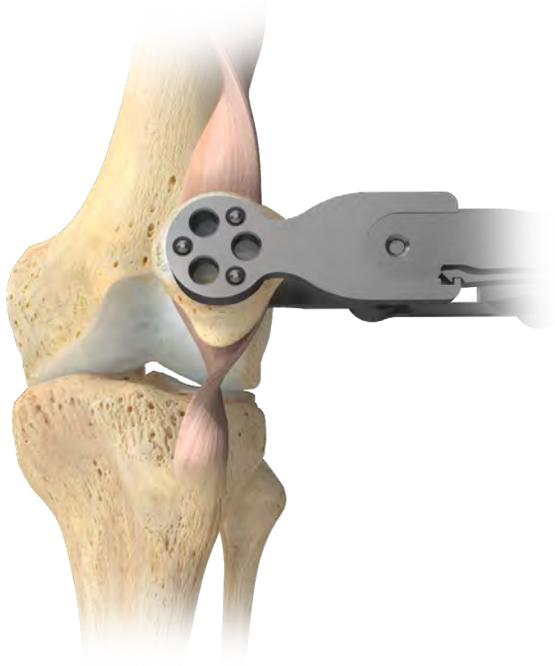

Figure 5
- Place the appropriately sized 3-peg drill guide onto the resected patella and use the  $\frac{1}{4}$  inch patellar drill to prepare for the component pegs (Figure 5).